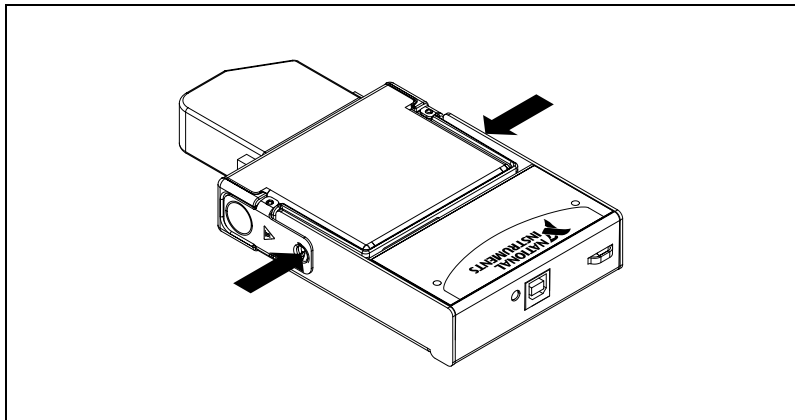

Figure 5. Locking Module into Place
5. Press firmly on the connector side of the NI 9421 module until the latches lock the module into place, as shown in Figure 5.